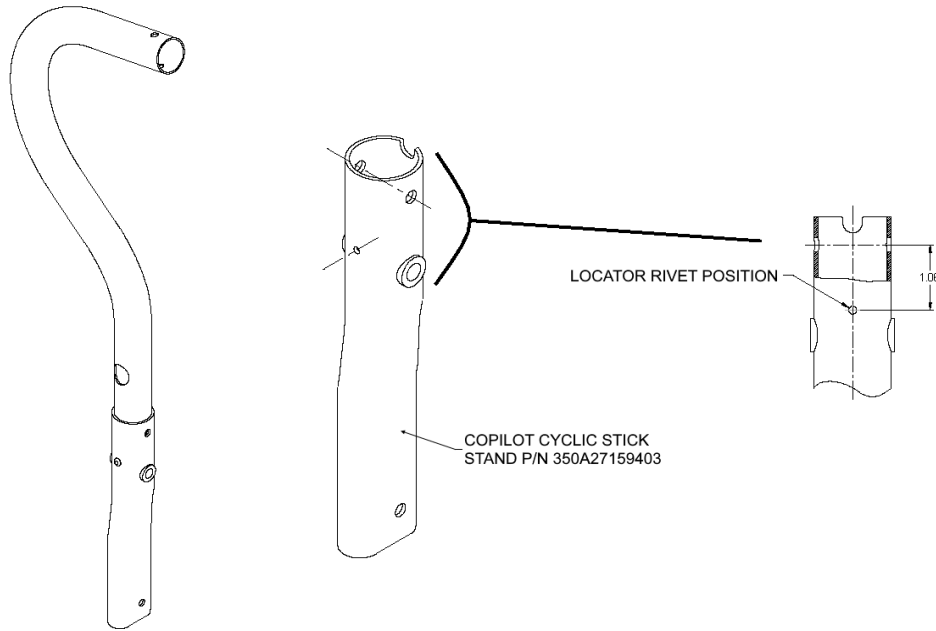

FIGURE 15: SB GA107-1 LH CYCLIC STAND LOCATOR RIVET
- 5.3.3 Inspect co-pilot cyclic stick stand (ref. p/n 350A27159403) for locator rivet, installed per Service Bulletin GA107-7 Rev --, or later approved revision, shown in Figure 15. If the rivet is not present, install the rivet per Section 2.3 of Service Bulletin GA107-7 Rev --, or later approved revision.